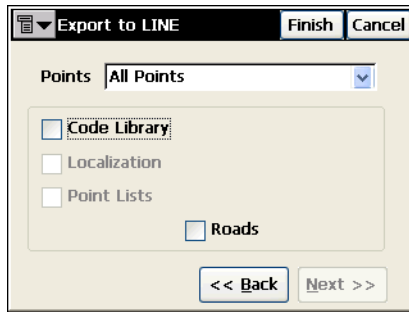

Figure 5-14. Export
3. In the *Export to...* screen select whether points are to be exported, and if necessary, filter the exported points by type; by range and code; or by type, range and code (Figure 5-14 on page 5-9).